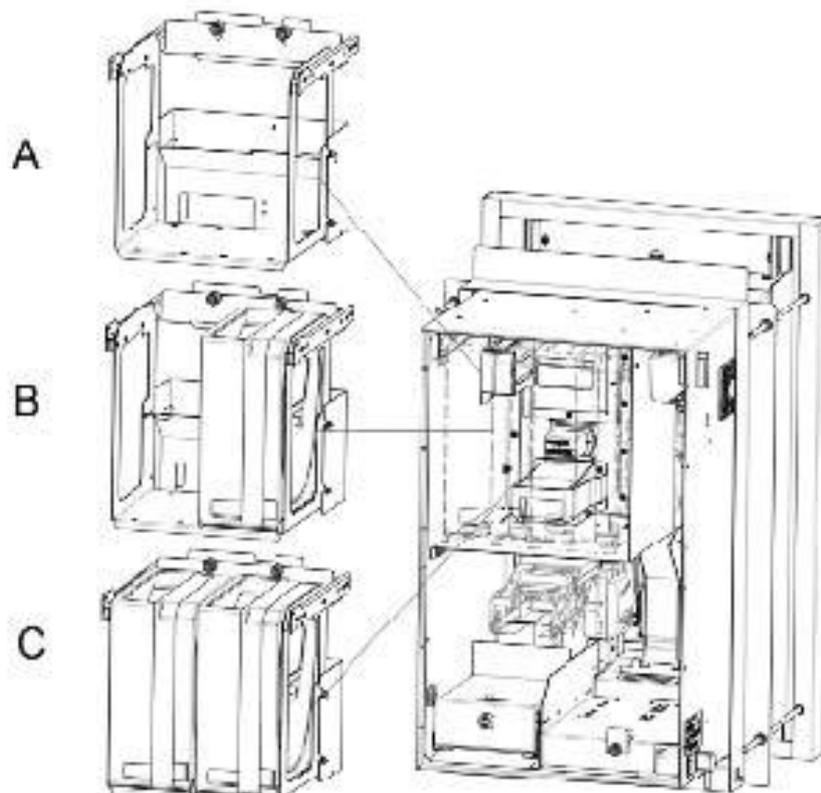

Fig. 9
The hoppers are placed as shown in Figure 9. In Touch PRO it's possible to have no hopper (A), one hopper (B) or both of two hoppers (C).